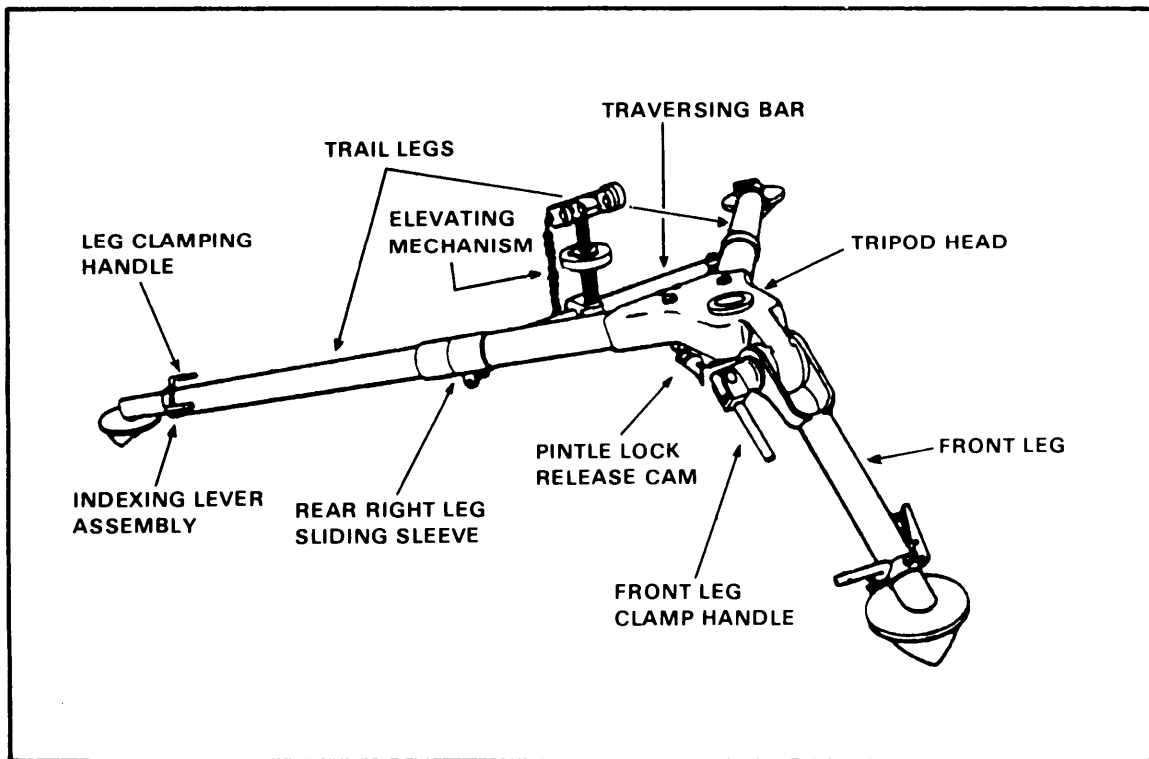

Figure 3-2. M3 tripod.
- a. Set the tripod trail legs (Figure 3-2):